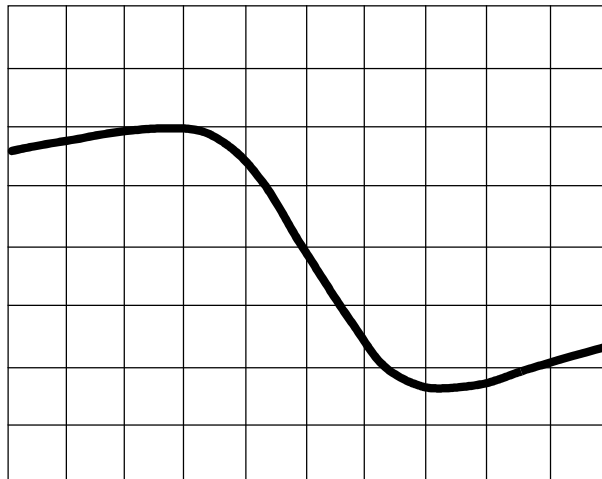

Figure 4-11. Typical Midband FM Discriminator Response
15. Select an IF bandwidth from 75 kHz to 500 kHz. Set the sweep generator for a 1 MHz wide response. Adjust L7 for maximum linearity and a zero crossover at 21.4 MHz. **Figure 4-11** illustrates a typical midband response.